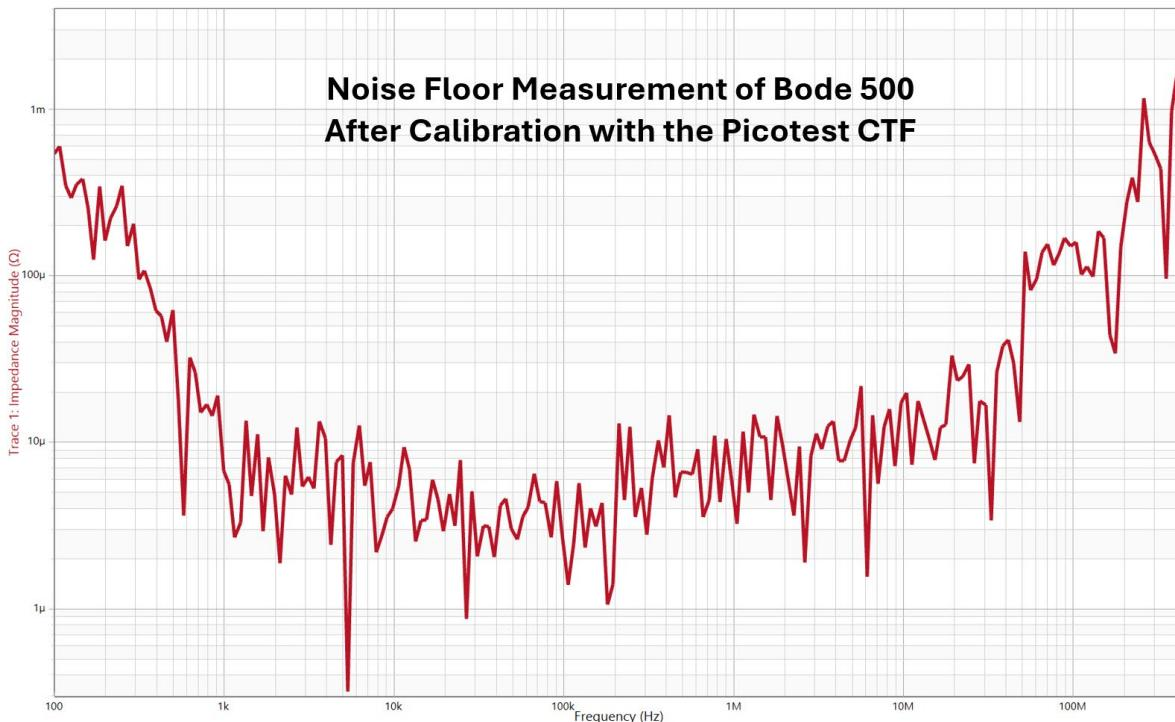

Figure 5: Noise Floor on Bode 500 After Calibrating with the CTF
Step 9: Use the ISO SHORT board to obtain a noise floor measurement. This should be in the 10's of micro-ohms or better (see Fig. 5).